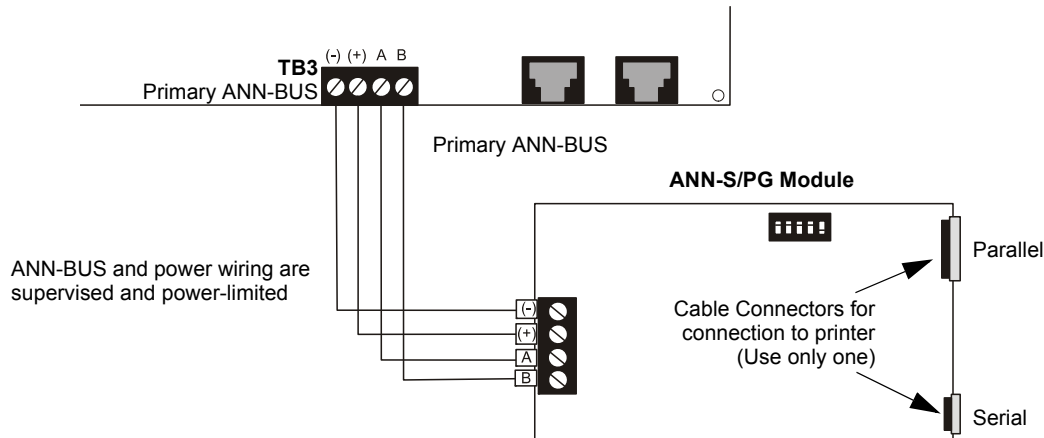

Figure 2.23 ANN-S/PG Connection to FACP
2. Connect the ANN-S/PG to the FACP as illustrated in Figure 2.23.
5. Connect a printer to the ANN-S/PG Parallel and/or Serial connectors (refer to Figure 2.23 on page 41).